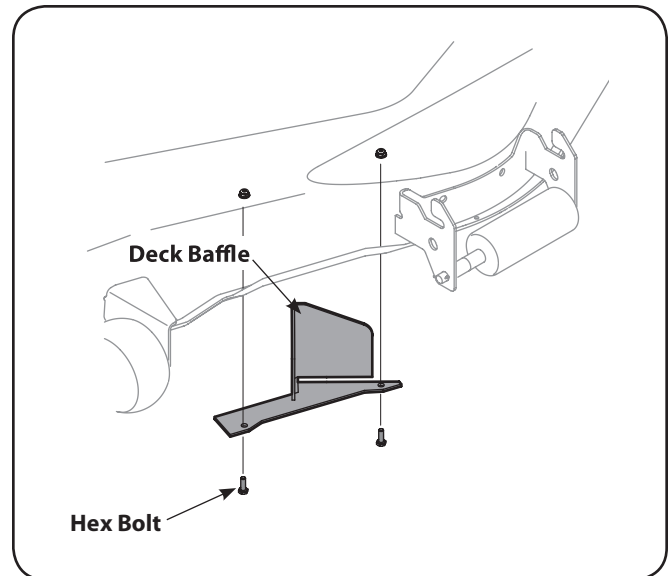

Figure 4-15
2. Install the deck baffle included with the loose parts to the underside of the mowing deck using two 710-04666 hex bolts and 912-3027 flange lock nuts from hardware pack 689-00329, as shown in Figure 4-15.